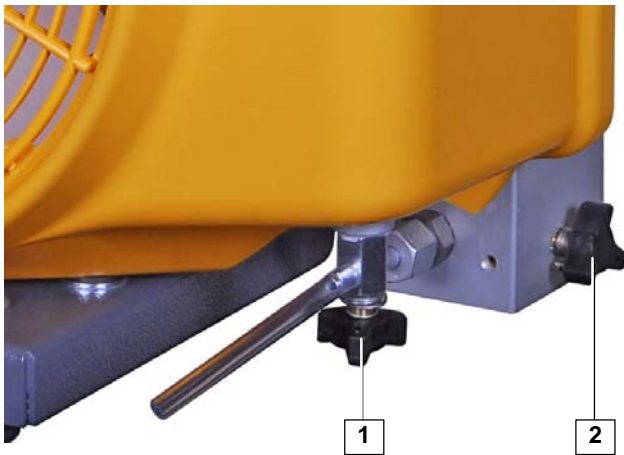

Fig. 12 Condensate drain taps
3. Ensure that condensate drain tap (1, Fig. 12) of intermediate separator is open. On petrol units open additionally the condensate drain tap (2, Fig. 12) of final separator.
5. As soon as final speed is reached close condensate drain tap (1, Fig. 12) of intermediate separator (on
petrol units close additionally the condensate drain tap (2, Fig. 12) of final separator).
Open condensate drain tap (2, Fig. 12) and drain shortly the final separator prior to switching off the unit.
2. Drain condensate from intermediate and final separator by means of drain taps (1 and 2, Fig. 12). Let